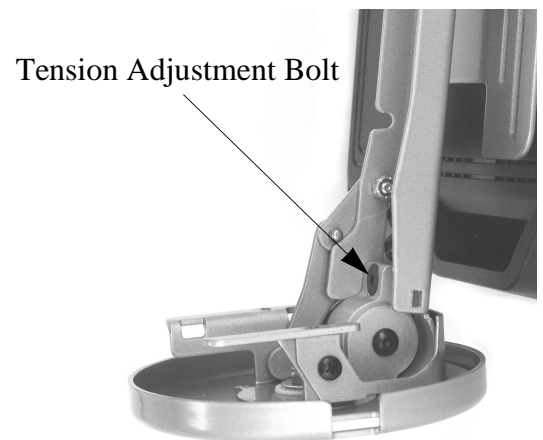

Figure 5. Adjust Arm Tension
1. Using a 5/32" Allen wrench (80), slightly tighten or loosen the tension adjustment bolt at the base of the arm (see Figure 5).